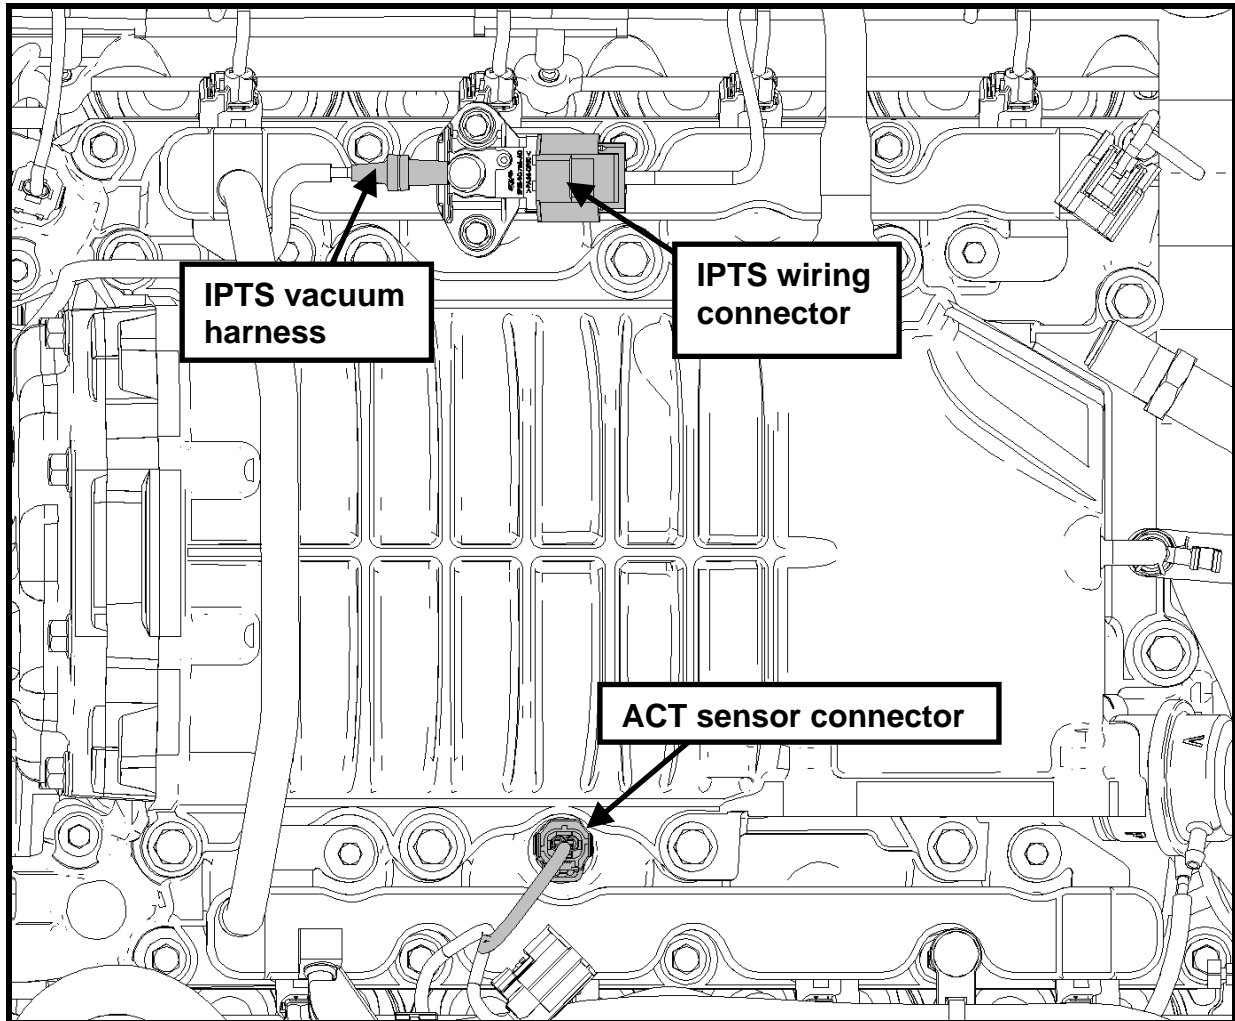

Fig. 14
**STEP 14:** Disconnect the wiring harness and vacuum tube from the fuel rail pressure sensor (IPTS). Disconnect the wiring harness from the ACT sensor (See Fig. 14).